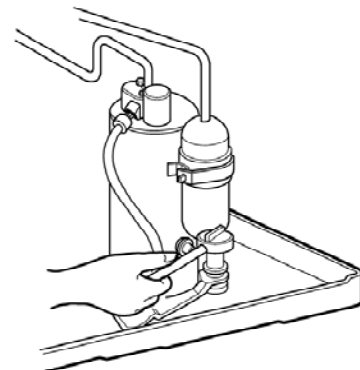

Figure 10
5. Remove the 3 nuts and the 3 washers which fasten the compressor. (See Fig. 10)